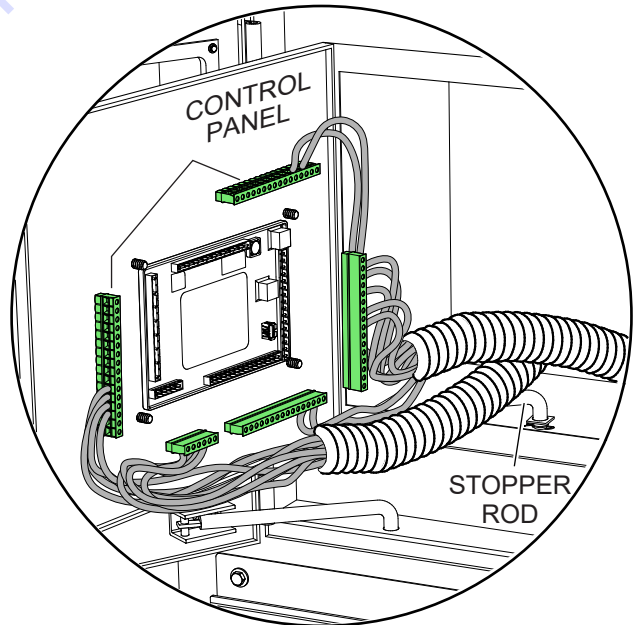

Figure 4. Control Panel Stopper Rod
3. To prevent movement of the control panel, secure the panel with the stopper rod (Figure 4).